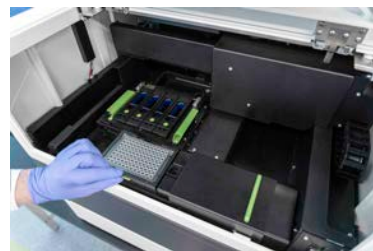

Figure 21: Fasten the clamp on the collection plate
3. Fasten the clamp (see Figure 21).